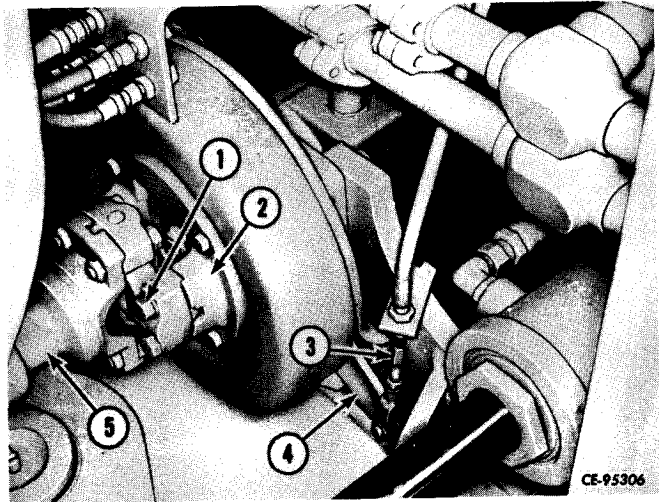

Figure 5-43
Install the drive shafts (5, Fig. 5-43) in the transfer drive yokes (2) and secure with cap screws (1). Torque the cap screws. Refer to "SPECIAL TORQUES" in this section.